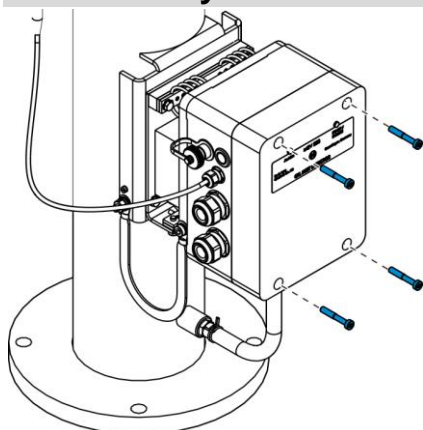

Fig. 73: Removing screws
1. Remove the screws of the housing cover (Fig. 73).